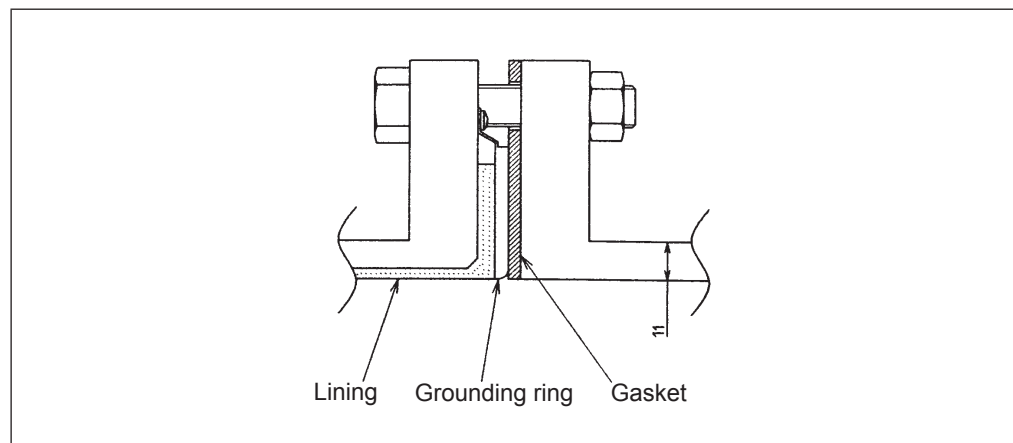

Fig. 2-23. Installation using grounding rings of SUS material
- Install the detector as shown in Fig. 2-23. The torque level for tightening the bolts is not related to the gasket material. See Table. 2-5 on page 2-24 for the appropriate torque. For the internal diameter of the gaskets, see Table. 2-2 on page 2-12.